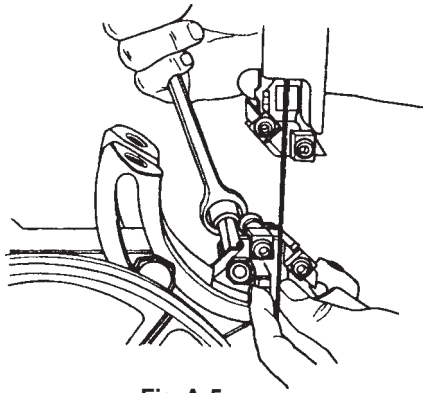

Fig. A-5
2. Loosen the 1/2" mounting bolt (110) which holds the lower blade guide assembly to the Bandsaw frame, as seen in Fig. A-5. The head of this mounting bolt can be reached from the back of the Bandsaw, just above the trunnion.